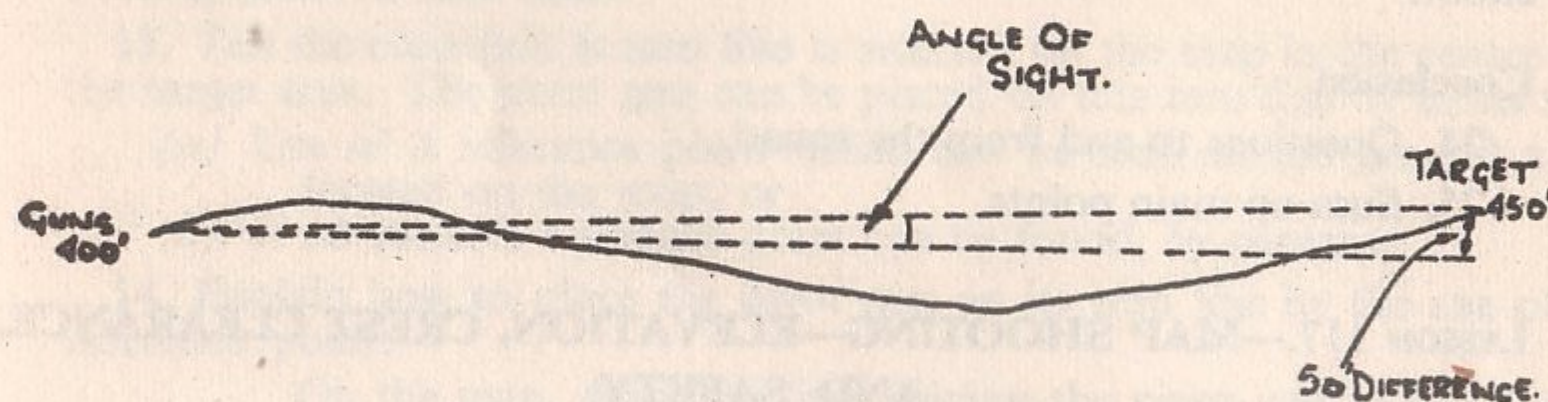

FIG 53
- The angle of sight is obtained by determining the difference in height between the guns and the target and converting this vertical height to an angle. (*see Fig 53 below*).